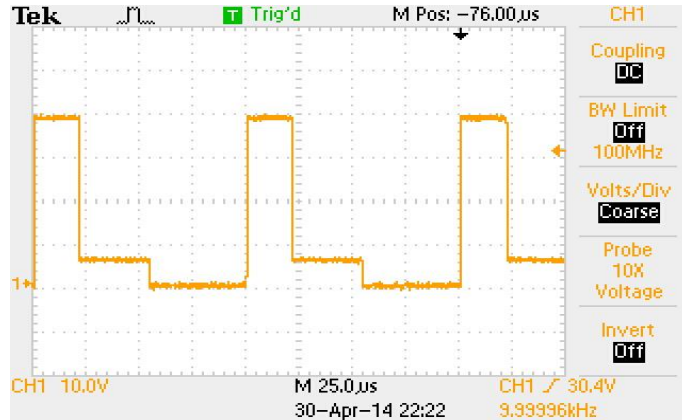

Figure 1
- 6.3.4** Verify that the red LED illuminates and the scope displays the signal of figure 1 (approx. 40v p/p at 10KHZ).